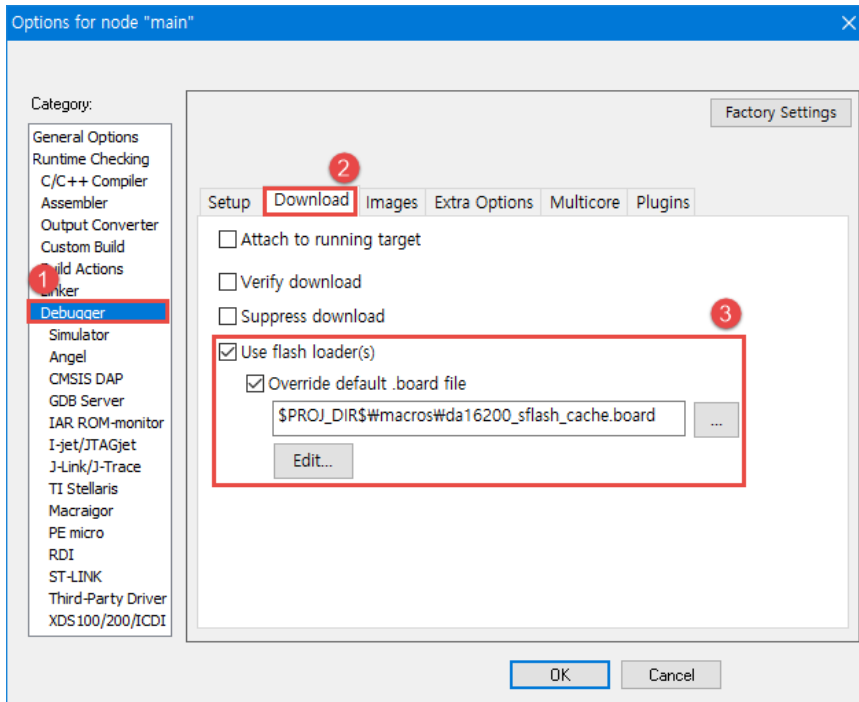

Figure 41: Debugger Download Setting
- g. Select the **Download** tab (2). See Figure 41.
- h. Select the checkbox **Use flash loader(s)** (3).
- i. Select the checkbox **Override default .board file** (3).